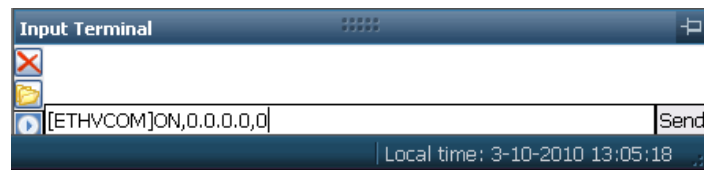

Figure 18: Input Terminal
1. Use the Input Terminal to issue the following commands (Figure 18).